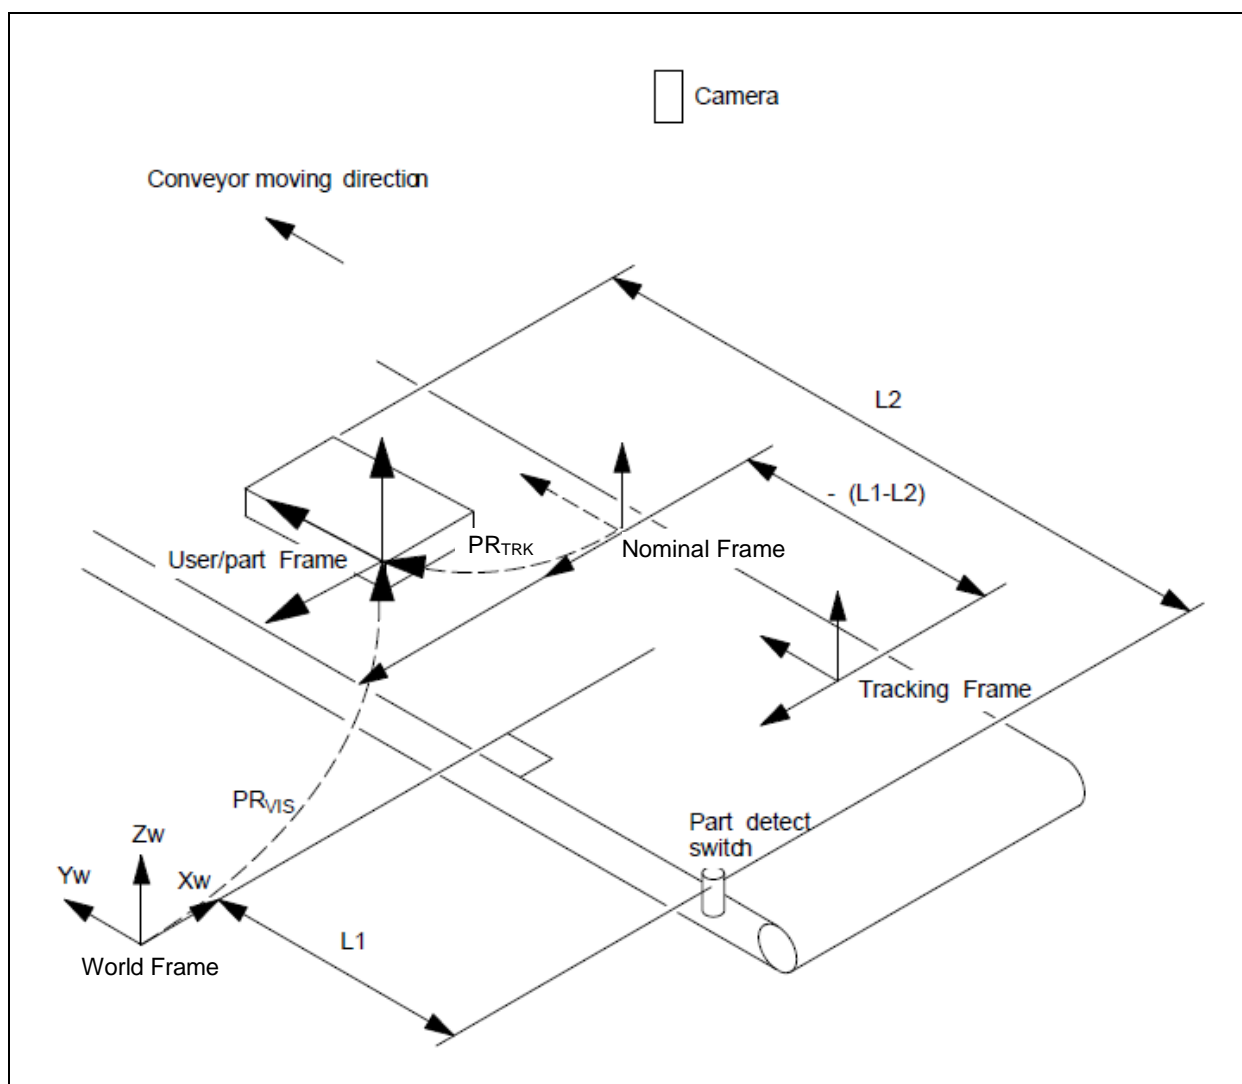

Fig. 5.5.2 User/Part frame and frame relationship in typical line tracking system
In order to use the Tracking User frame functionality, you must understand Line Tracking frames and their relationship. See Fig. 5.5.2 for a typical robot-conveyor setup and frame relationship.
L1	Part DetectDist.(mm) in the Line Tracking Schedule Setup. If you set this parameter to the distance from the robot to the part detect switch, L1 is as depicted in Fig. 5.5.2.
- The conveyor is placed as in Fig.5.5.2. That is, the orientation of the tracking frame is the same as rotating the world frame by 90 degrees around the z axis. (In other words, the conveyor direction is parallel to World +Y and the conveyor surface is vertical to World +Z.)